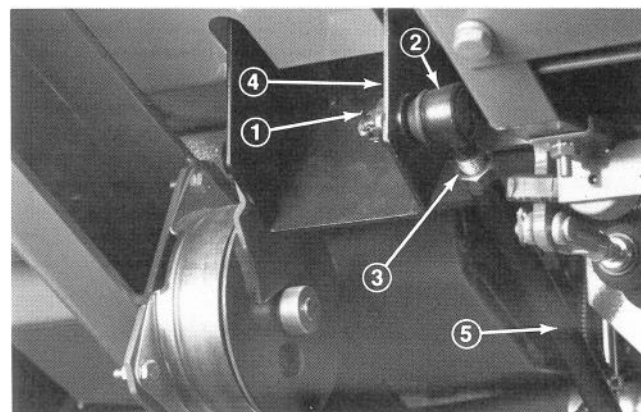

Figure 68
2. Remove cotter pin and slotted nut from ball joint at traction pedal (Fig. 68). Disconnect ball joint from traction pedal.